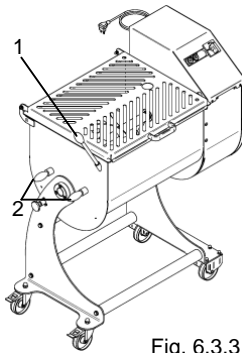
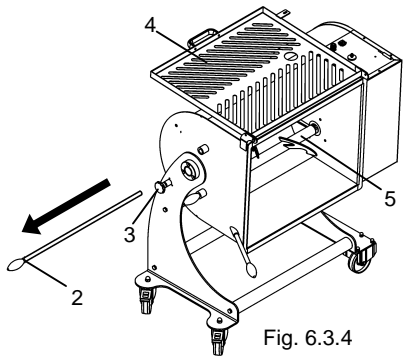
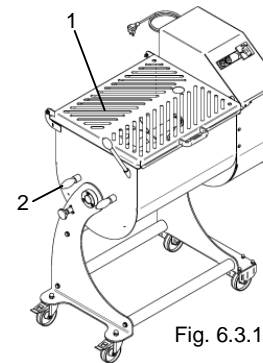
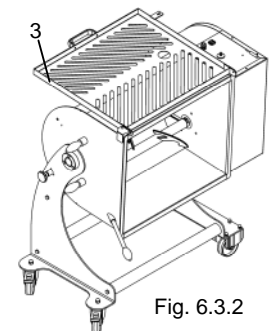

Fig. 6.3.3
Fig. 6.3.4
Fig. 6.3.1
Fig. 6.3.2
- With the bowl in a horizontal position grip the handle on the bowl tilting bar "1" Fig. 6.3.3
- Unhook and remove the pins which lock the mixing blades "2" in position Fig. 6.3.3 and "2" Fig. 6.3.4
- Unscrew the bowl locking knob "3" anti-clockwise Fig. 6.3.4
- Once having released the mixing bowl rotate (Fig. 6.3.2) by pulling the tilting bar "1" Fig. 6.3.3.
- Open the grille "4" Fig. 6.3.4 and proceed with removing the mixing blades.
- Grip the mixing blades one at a time "5" Fig. 6.3.4 and pull outwards to remove.
grip the handle on the bowl tilting bar "1" Fig. 6.3.1
- Pull the tank locking knob "2" Fig. 6.3.1
- Once having released the mixing bowl rotate (Fig. 6.3.2) by pulling the tilting bar "1" Fig. 6.3.1.
- Open the protection grille "3" Fig. 6.3.2 and empty the bowl.